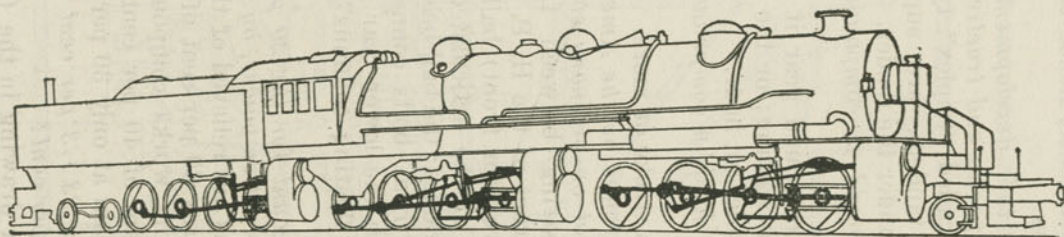

Fig. 355. Baldwin Triple Articulated Engine No. 5921, Erie R. R.
A. Yes; in the so-called "triplex" type, where three engine sets, placed tandem, are supplied from one boiler; one set being under the tender. (Fig. 355.)